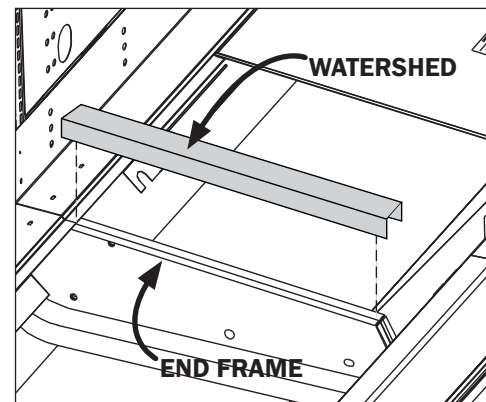

Fig. 4 Sealing the pipe chase
6. Apply case-to-case watershed (supplied) over the end frame seam (Fig. 4). The watershed prevents water from settling in the case joint.